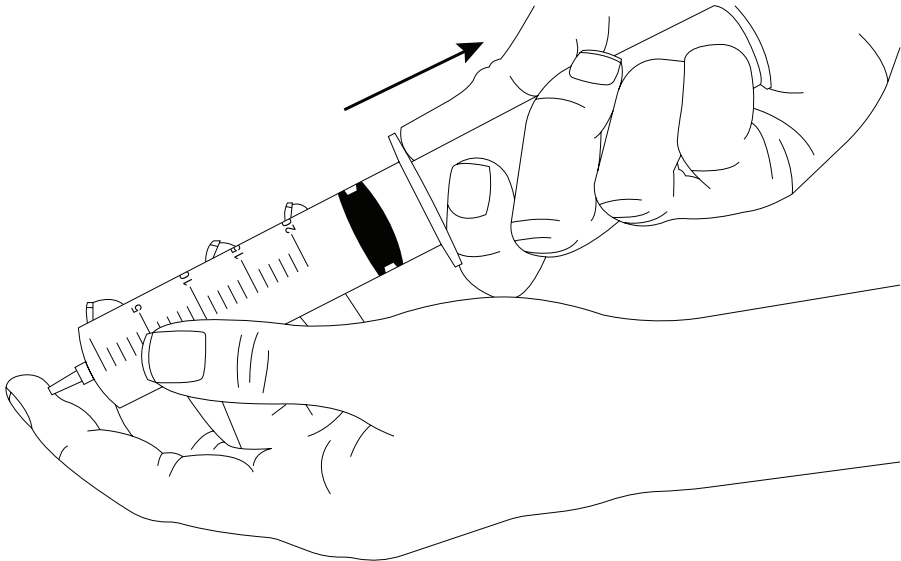

Figure 16 Degassing water in reservoir syringe
5. Pull the plunger out and hold it Figure 16.